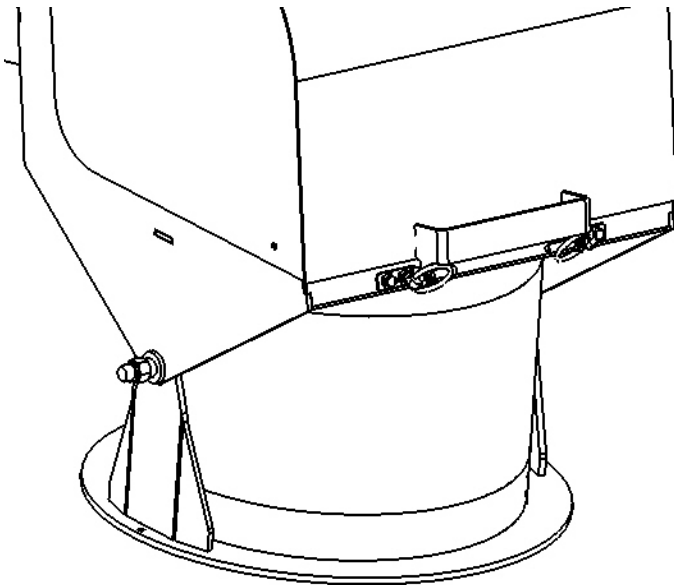

Fig. 46.1
Next, install the flexible hose seal (13226) on to the ring and head as shown in fig. 46.1. Secure on the hose to the head and the ring with (2) hose clamps (13145). Locate the swing tube hold down plates (13195). Place swing tube on infeed housing being sure to align the swing tube knuckle and infeed gearbox. Secure the swing tube to the infeed using (8) 3/8" x 1-1/4" hex flange bolts, 3/8" washers & flange nuts. Tighten all 8 fasteners.